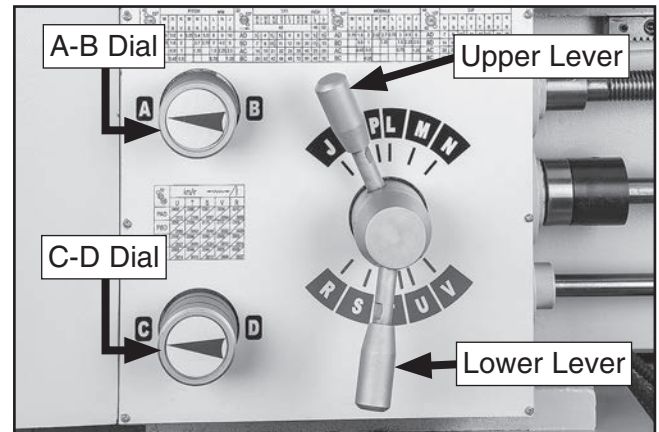

Figure 76. Gearbox dial settings for 22 TPI.
—"AC" indicates that the dials marked **A-B** and **C-D** must be moved to positions "A" and "C" (see **Figure 76**).
—"KT" indicates that the upper and lower levers must be moved to positions "K" and "T" (see **Figure 76**).
4. Move quick-change gearbox dials and levers to positions **ACKT**, as shown in **Figure 76**.